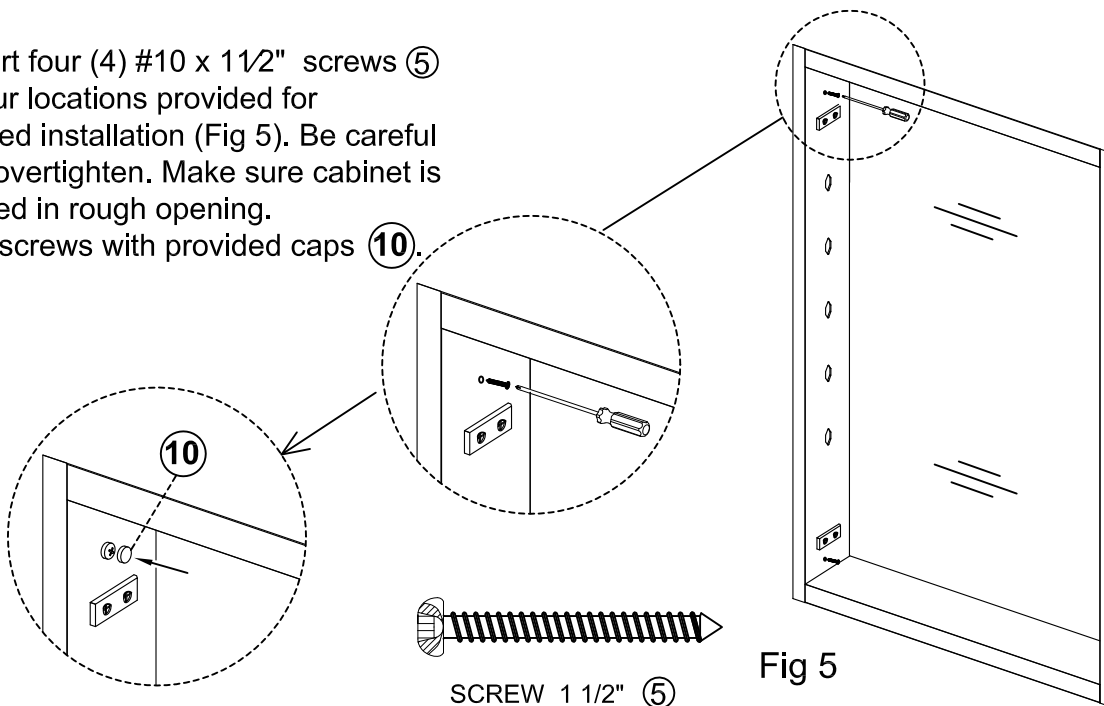

Fig 5
2. Insert four (4) #10 x 1 1/2" screws ⑤ into four locations provided for recessed installation (Fig 5). Be careful not to overtighten. Make sure cabinet is centered in rough opening. Cover screws with provided caps ⑩.